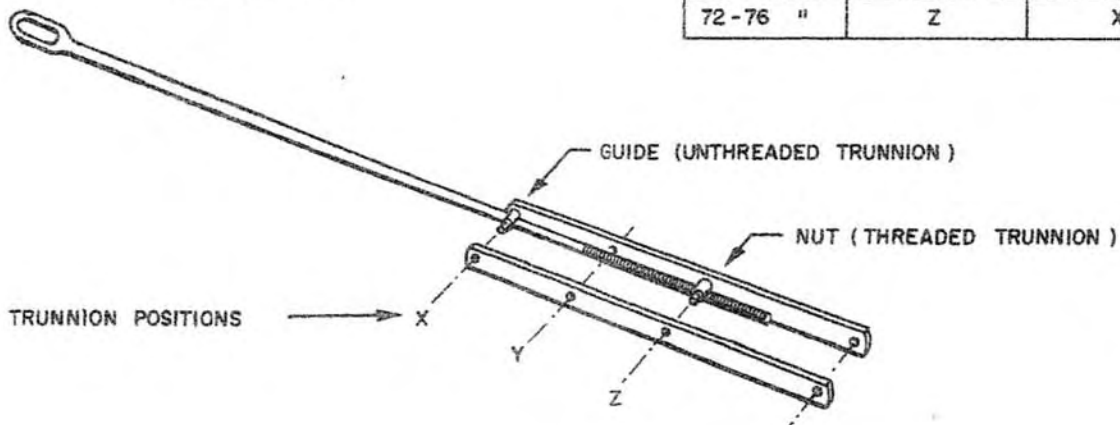

Fig. 9 - Width Adjustment Diagram
4. Remove the nuts and washers from the four base plate bolts. Lift the frame clear of the mower and reposition it on the four base plate bolts at the required position. Fig. 9 shows correct bolt holes to use for the 52-56 inch setting the 62-66 inch and the 72-76 inch setting. This diagram and the accompanying table also gives the information on positioning the spring support and the lift link trunnions.
7. The lift rod should now be refitted to its retaining links. Take notice of two trunnions provided, one is threaded and one is non-threaded. In the diagram, Fig. 9, the trunnions are shown in the correct position for a 52 to 56 inch wheel setting. The non-threaded
trunnion is fitted at the top (left) of the links and used as a guide, while the threaded trunnion is used to retain the rod, and is fitted at bottom (right) of the links. Both trunnions are held in place by two 3/32 inch cotter pins. For the 72-76 inch wheel setting, the rod is attached to the threaded trunnion, which is fitted at the top (left) hole in the links. No guide is necessary in this position and the non-threaded trunnion is retained in the bottom (right) position for use when needed. For the 62-66 inch wheel setting and for further information on the above adjustments, refer to Fig. 9.